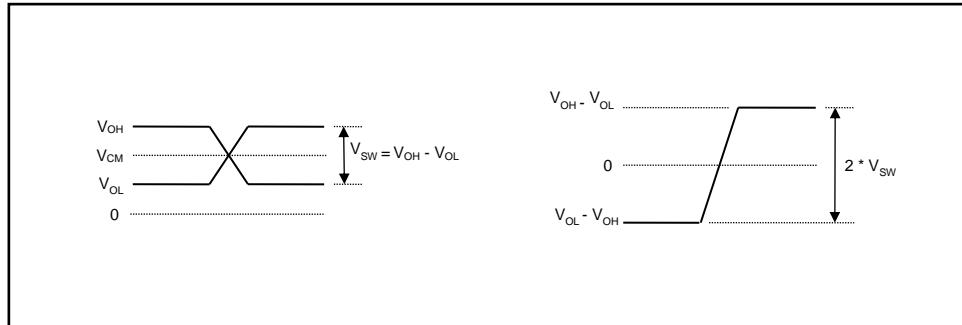

Figure 42. Differential Output Voltage Levels
**Output differential swing is calculated as $V_{SW} = V_{OH} - V_{OL}$. It should not be confused with $V_{SW} = 2 * (V_{OH} - V_{OL})$ used in some datasheets. . Please refer to Figure 42.
**Output differential swing is calculated as $V_{SW} = V_{OH} - V_{OL}$. It should not be confused with $V_{SW} = 2 * (V_{OH} - V_{OL})$ used in some datasheets. Please refer to Figure 42.